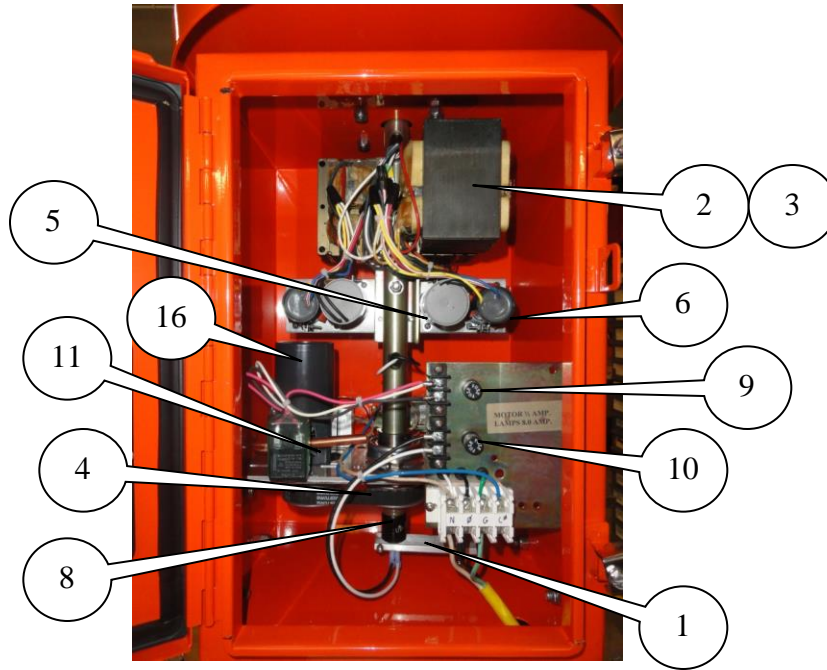

Figure 4
The HBM 150/3 has a lamp fuse and a motor fuse. The fuses are located on the Control Panel, directly inside the door of the chassis. (See Figure 4)
2. Disconnect the two lamp wires from the control panel. Refer to Figures 4 and 5 for wire locations.
2. Remove the two wires from the bottom of the rotating coupling. (Refer to Figures 4 and 5 for wire and component locations.)
3. Refer to Figures 4 and 5 to locate the components. Each lamp ballast has 3 components--a transformer, an ignitor, and a capacitor. Each ballast is identified by lamp color by the wire marker located on the transformer wire at the ballast terminal block. Locate the ignitor and capacitor associated with the defective transformer.
2. Refer to the Figures 4 and 5 for component locations.